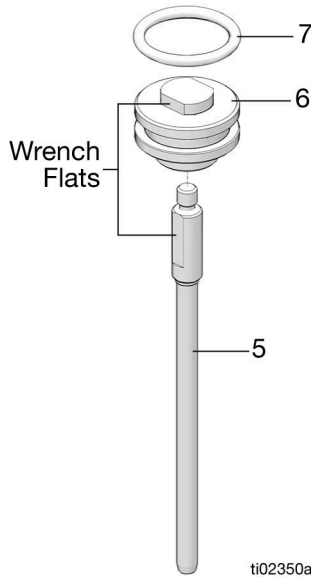

FIG. 14 Air piston and fluid plunger
1. Use the wrench flats (FIG. 14) located on the piston (6) and plunger (5) to loosen and remove the plunger from the piston.
2. Clean the dried thread locker from the internal threads of the piston (6) as much as possible.
3. Apply a thin bead of high strength thread locker to the external threads of the new plunger (5).